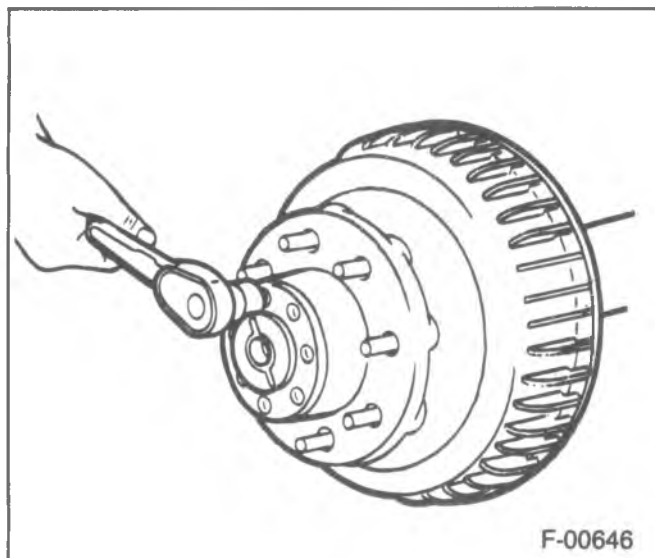

Figure 22—Removing or Installing Flange-to-Hub Bolts
↔ Remove or Disconnect (Figures 22 and 23)
1. Axle shaft (53) with a gasket or RTV applied.
2. Bolts (55) figures 22 and 23.